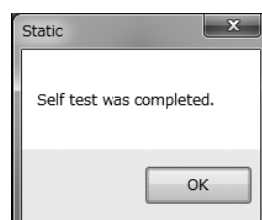
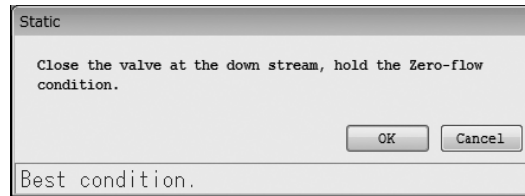

Fig.114
Fig.115
- ⑤ Click "OK" to execute the checks. Once they are finished, a message box (Fig. 114) will be displayed. Click the "OK" button to complete the static device installation state check. The results are displayed as shown in Fig. 115.